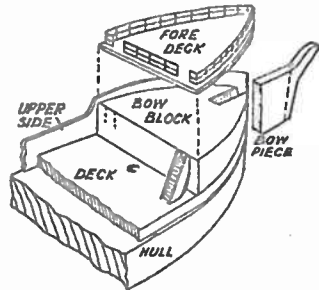

Fig. 1
The bow piece, bow block and foredeck are then assembled as seen in Fig. 1, and piece (B) is glued to the stern end of the deck. Further reference to
Fig. 1 will show the deck inset slightly from the edge of the hull piece (as explained earlier), and this inset is designed to accommodate the two upper sides which are cut from 1 mm. ply or, if preferred, good quality Bristol board, and which are glued around the deck so that the hull and upper sides then form perfectly flush sides to the vessel. When the glue is properly dry, any slight irregularity should be cleaned off so that the sides really do look like one smooth whole.